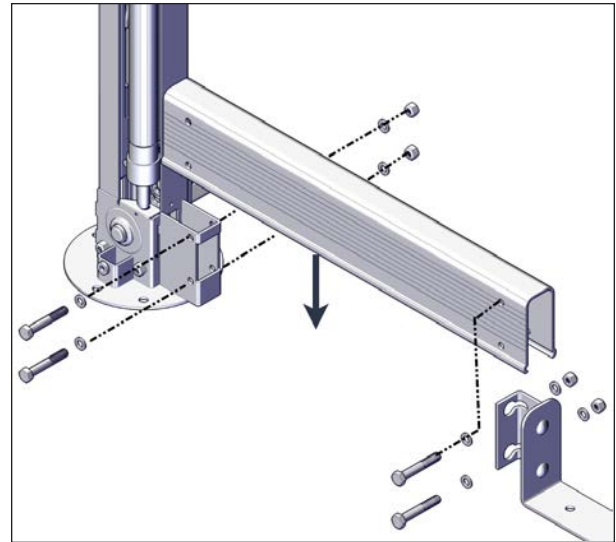

**FIGURE 54: SAP ENTRANCE U-FRAME LINK AND METAL COUPLER**
12. Install one unpainted metal coupler on each end of the spa entrance U-frame link see Figure 54.
13. Align one coupler with the holes on each end of the spa entrance U-frame link. Use the provided 1/4" x 3/4" carriage bolts, 1/4" nylon-insert lock nuts and fasten the hardware with the 7/16" (11 mm) socket wrench and spanner. There is one metal coupler per side see Figure 54.